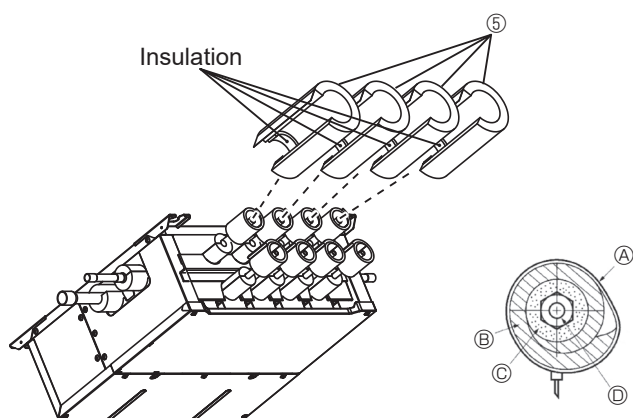

Fig. 6-8
- (6) Wrap the supplied pipe covers (gas) ⑤ by butting their inner insulation to the Branch box. Tighten the bands ⑬ to fix the covers at 10 - 20 mm from their both edges. (Fig. 6-8)